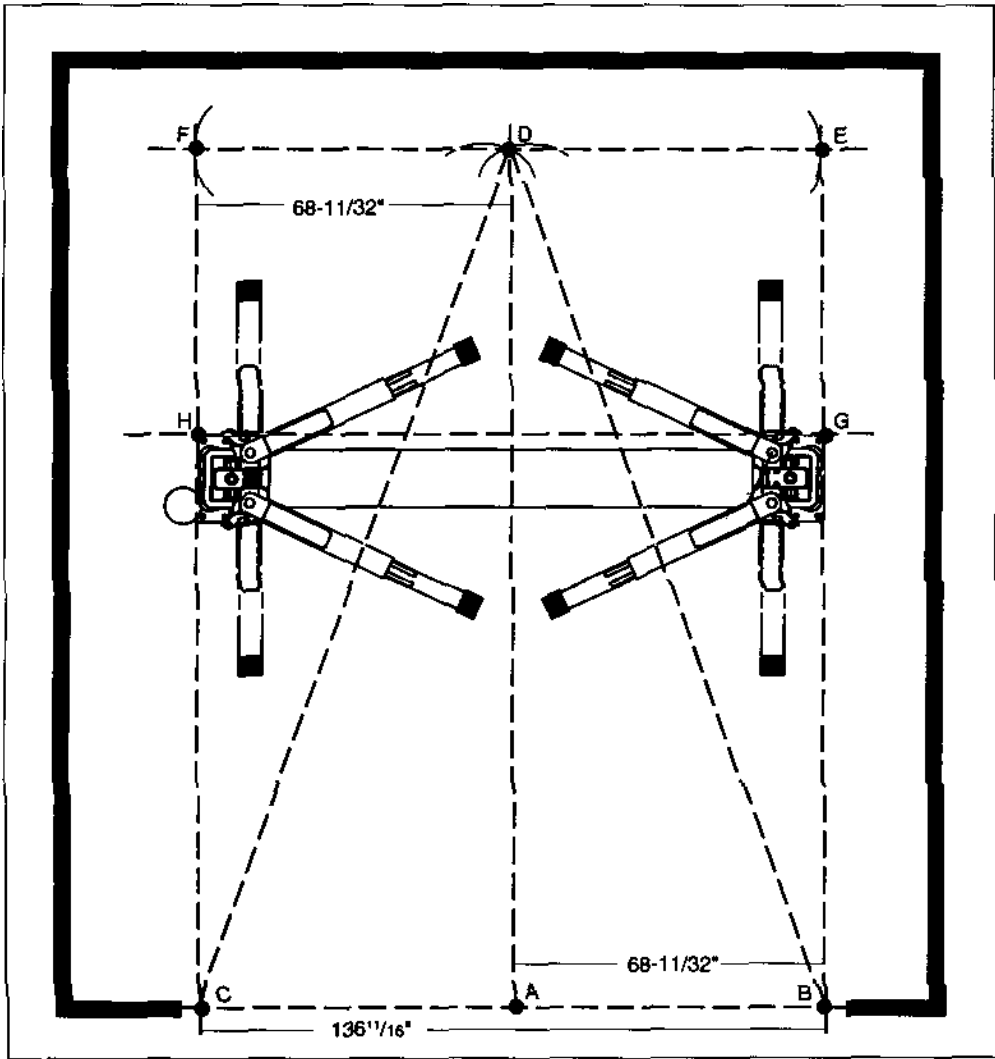

Figure 5 - Locating the Lift (with Garage Door)
1. Snap a chalk line in the threshold of the garage door. Measure and divide the distance in half to establish the center of the doorway, point "A", along this baseline. Refer to Figure 5.
3. Stand both posts in position at points "G" and "H". Refer to Figure 5.